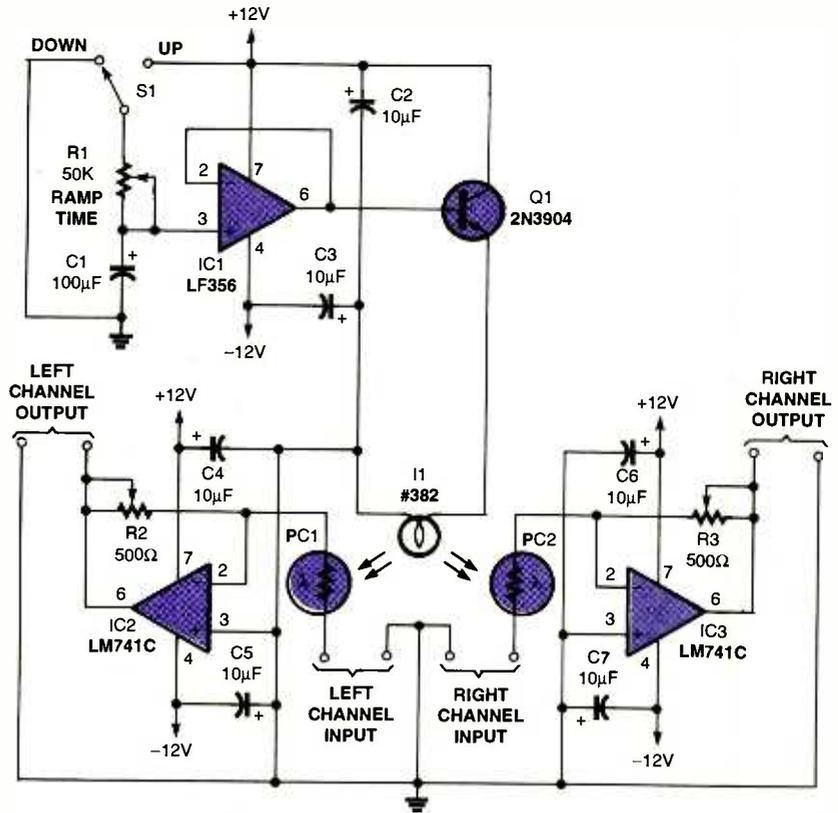

Fig. 1. This stereo unity-gain volume control features automatic ramp-up and ramp-down.
**A** I like automatic control of analog signals; the circuit in Fig. 1 was fun to design and breadboard. There's no doubt in my mind that this circuit could be adapted for some kind of use on a robot, especially in the area of controlled acceleration and deceleration. Don't be taken aback by the "antiquated" incandescent-lamp control. Many electronic organs used a similar design to provide smooth great- and swell-pedal control without worrying about a noisy potentiometer.
Fig. 1. The wheel frame is a U-shaped bracket formed from a piece of sheet metal. Use the servo motor and motor bracket as a guide when drilling their respective mounting holes.